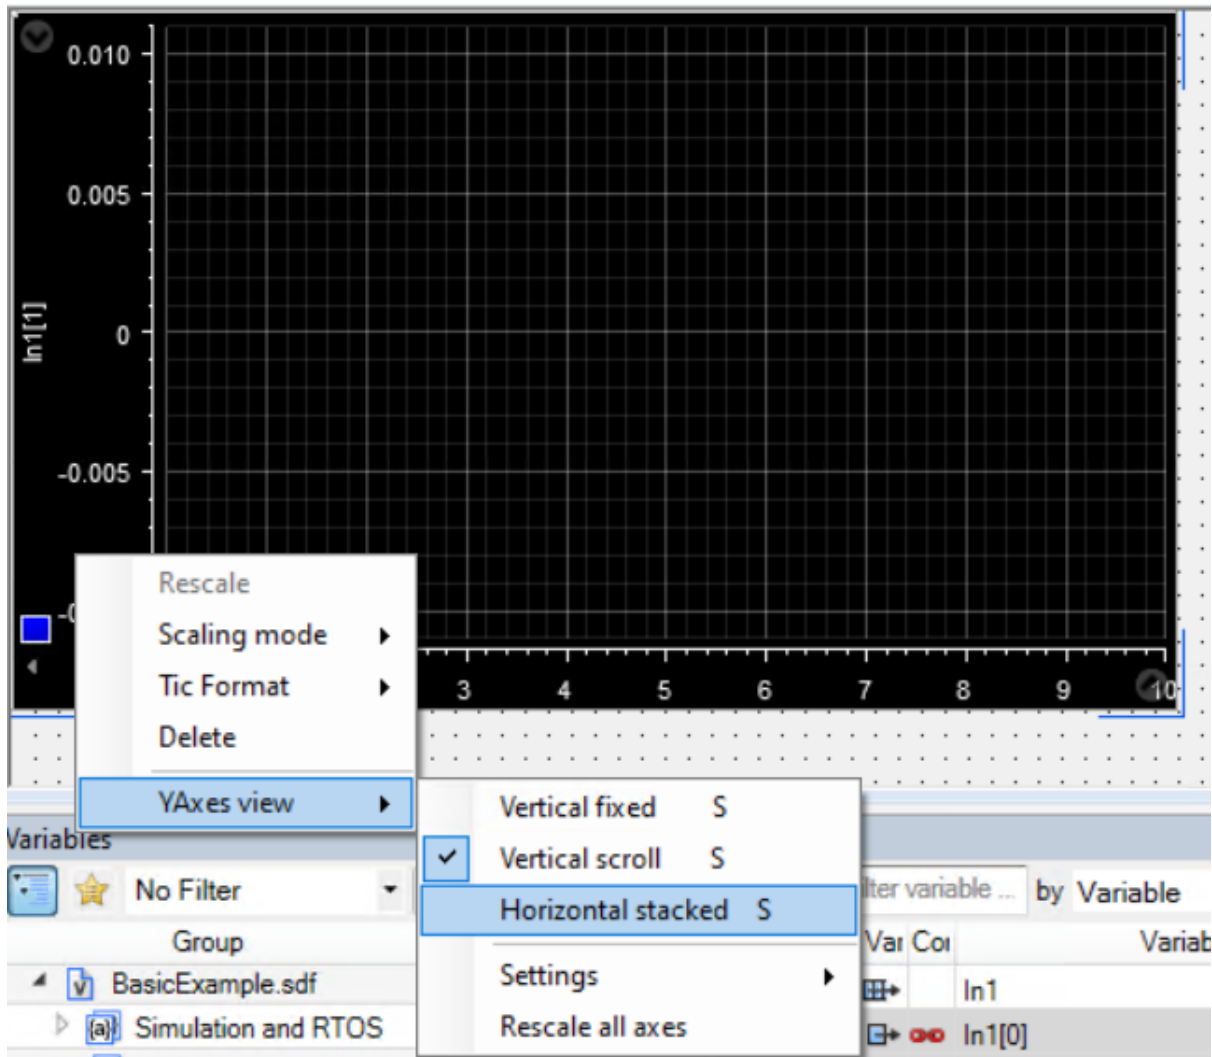

Figure 12.82: Select to show all the signals on the same plot with their own Y-axes
- 8) To see all the plots concurrently right-click on the left of the Y-axis and select `YAxes-view>Horizontal stacked` (see Figure 12.82).